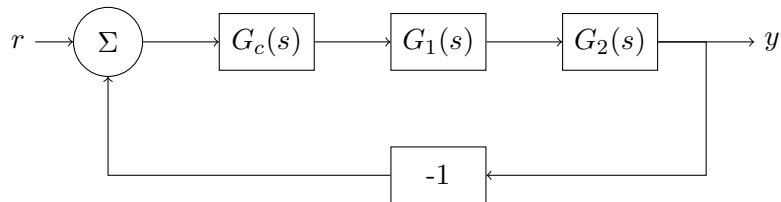

Figure 5 The control loop in Problem 5
5. We are going to design the control loop shown in Figure 5. The process is given by the two transfer functions